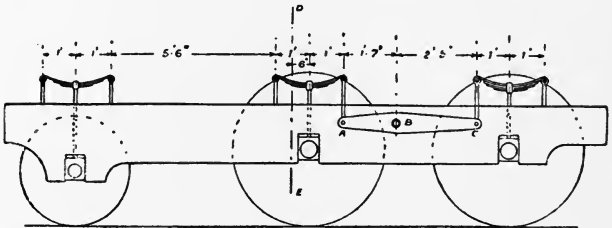

Fig. 1
1. The weight of a locomotive is supported by springs which transmit the pressures to the axles of the wheels as shewn in Fig. 1. The weight supported by the 3 wheels is 15 tons and acts along DE . Taking the dimensions from the figure, find the portion of the weight taken by each wheel.